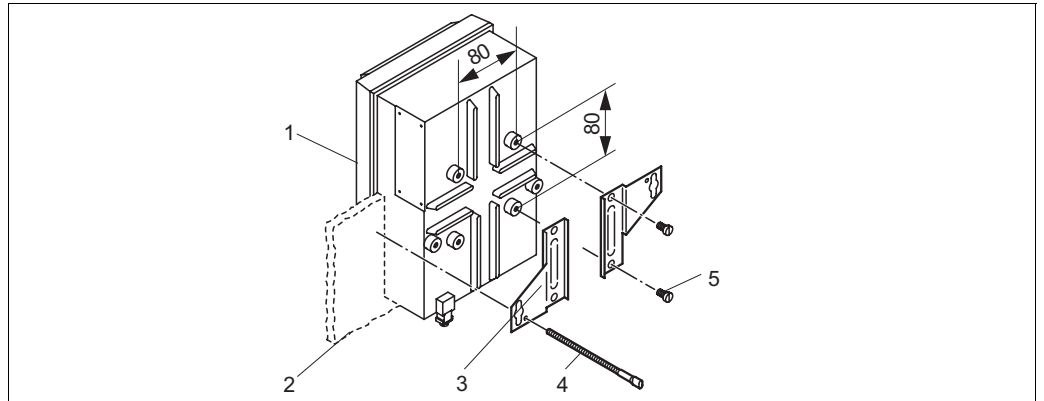

Fig. 11: Panel mounting
2. Unscrew the top housing section (item 1).
3. Secure the securing plates (item 3) to the transmitter housing base using the securing screws (item 5) in accordance with Fig. 11.
4. Secure the transmitter to the panel (item 2) using the clamping screws (item 4).